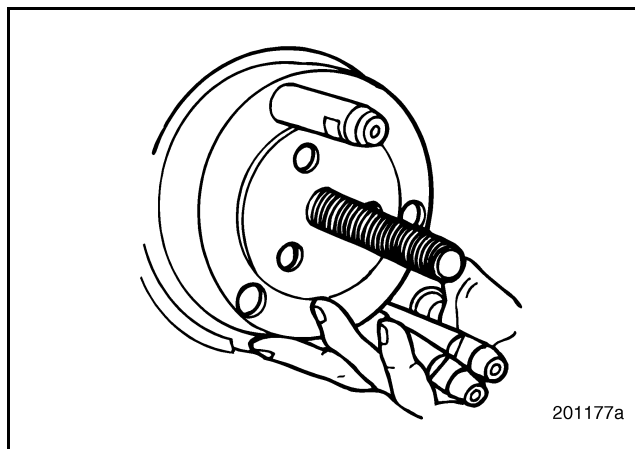

Figure 253 — Adapter Plate J 37716-B Installation
3. Using the three guide pins, attach the adapter plate to the crankshaft flange. Refer to Figure 253.